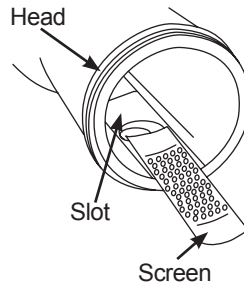

Figure 2
1. Slide the **Screen** (curved side down) into the slot on the inside bottom of the **Head** until it stops. Make sure both sides of the **Screen** are within the slot (Figure 2).